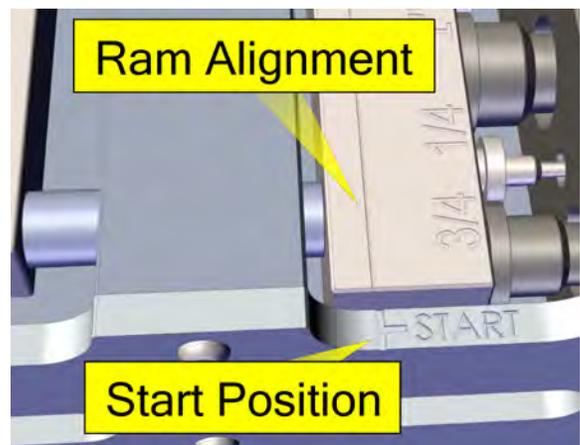

Fig. 12. Ram to Start Position
12. Return the Ram Arm back to the "START" line position marked on the frame. See Fig 12.